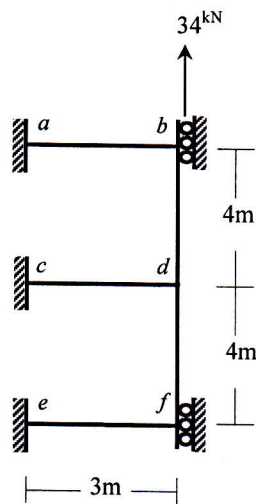

Fig. 1
- Use Stiffness Method (neglecting axial deformation) to calculate the unknown rotation and deflection at joint *d* of the frame *abcdef* loaded as shown in Fig.1 [Given: $EI = 16 \times 10^3 \text{ kN-m}^2$].
- Use Stiffness Method to calculate the unknown rotation and deflection at joint *d* of the frame *abcdef* loaded as shown in Fig.1 considering flexural deformations only with geometric nonlinearity [Given: $EI = 16 \times 10^3 \text{ kN-m}^2$].